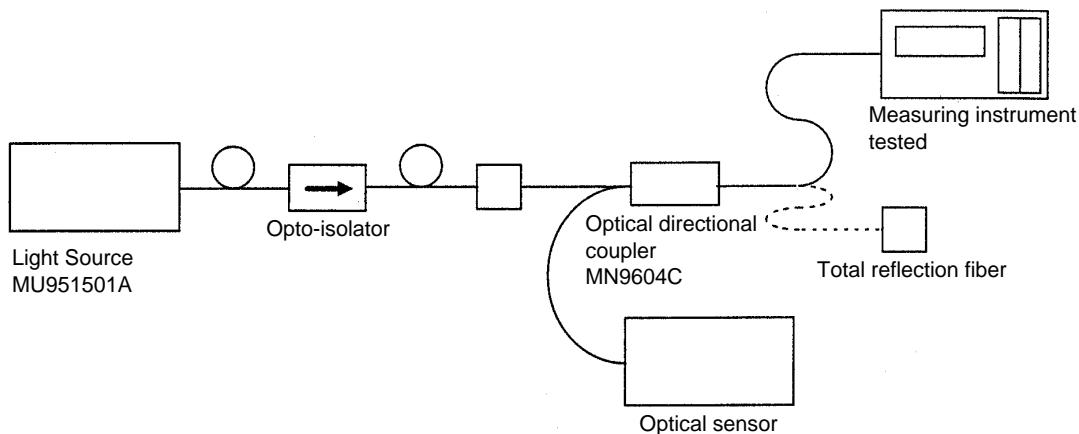

Fig. 5-6
1. Set up a measurement system as that shown in Fig. 5-6.